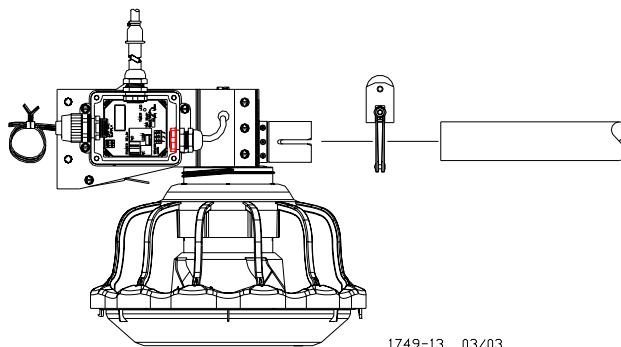

Figure 35. Connecting End Control Unit to the Feed Line Tube
1. Assemble the End Control Unit to the Feeder Line Control Tube using a clamp/anti-roost bracket. See **Figure 35**. **DO NOT INSTALL THE POWER UNIT AT THIS TIME.**